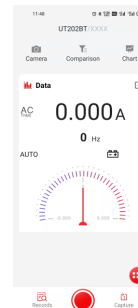

Figure 15
- iDMM2.0 has multiple function modules such as Bluetooth wireless communication, datalogging, device management, report generation, data share, data synchronization. ACA measurement interface is shown as figure 15. Please refer to the user manual for the function modules.